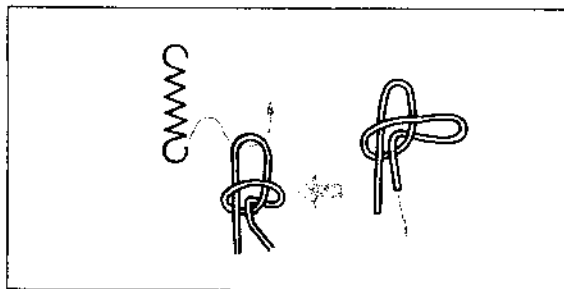

Fig. 2-4. Tying square knot in the coil spring
3. Tie the end of the cord to a spring as shown in Fig. 2-4.